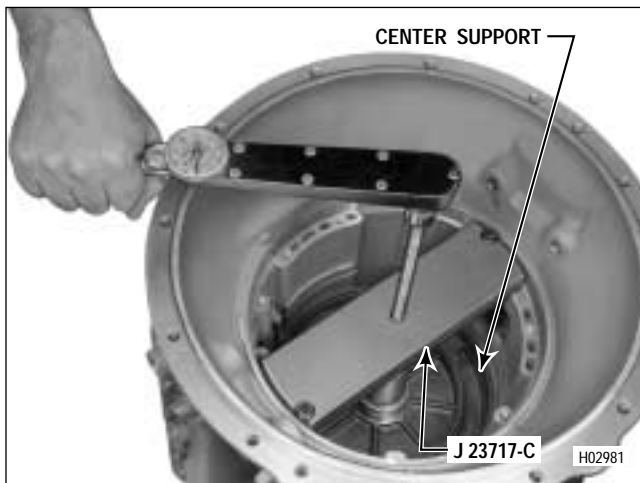

Figure 7-10. Compressing Center Support For Snapping Measurement
(7) Install center support compressor J 23717-C (Figure 7-10). Use two of the $\frac{5}{16}$ -18 x $\frac{13}{4}$ inch oil pump assembly retaining bolts to retain the compressor.
(8) Tighten the compressor bolt to 5 lb ft (7 N·m) (Figure 7-10).